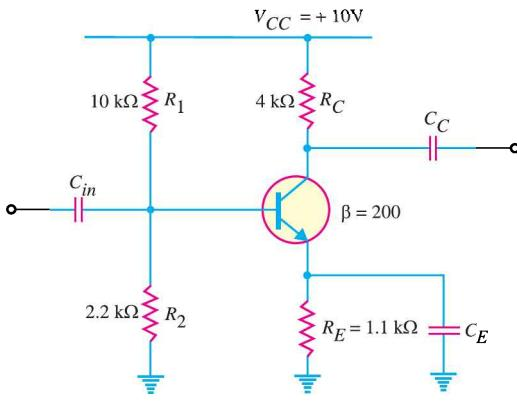
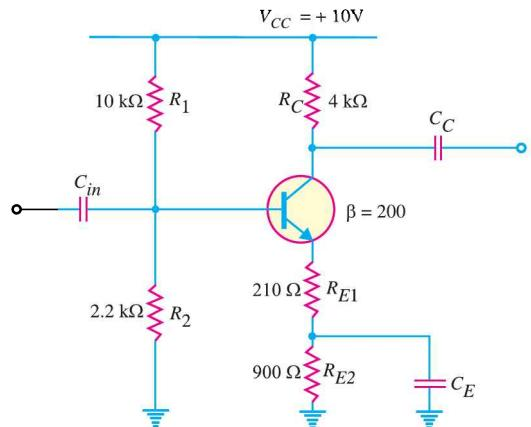

Fig. 10.39
Fig. 10.40
**Example 10.23.** Fig. 10.39 shows the circuit of a \*\*standard CE amplifier. The emitter circuit of this amplifier is swamped as shown in Fig. 10.40. Find :
For the standard CE amplifier shown in Fig. 10.39, we have,
For the swamped amplifier shown in Fig. 10.40, we have,
For the swamped amplifier circuit shown in Fig. 10.40, we have,
For the standard CE amplifier shown in Fig. 10.39, the voltage gain (\$A\_v\$) is given by ;
For the swamped amplifier in Fig. 10.40, the voltage gain (\$A\_v\$) is given by ;